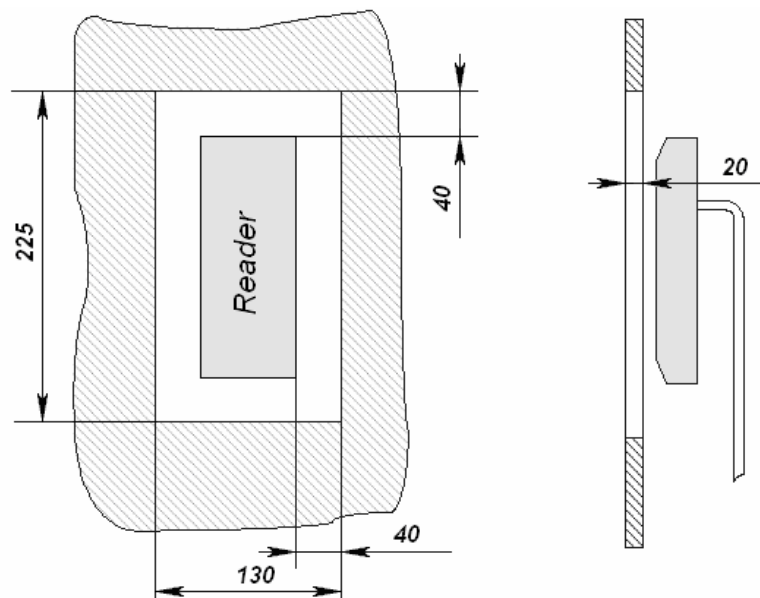

Figure 2. Reader installation behind the metal surface
- If the reader is mounted behind metal surface it is necessary to cut out the window in it and install the reader opposite and equidistant to window edges (Ref. Fig. 2) provided that window measures are min. 225×130 mm. The window can be covered with non-metal panel (for ex. plastic) whilst reader can be recessed inside the window at max. 20 mm distance from metal surface front side – at this mounting variant the code reading distance reduces to 30 – 50%.